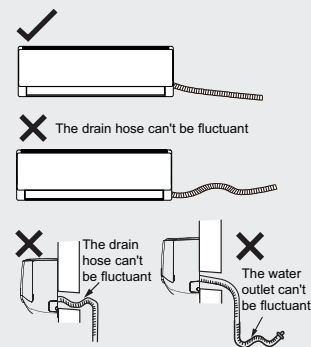

Fig.26
- Slant the drain hose slightly downwards. The drain hose can't be curved, raised and fluctuant, etc. (As shown in Fig.26)